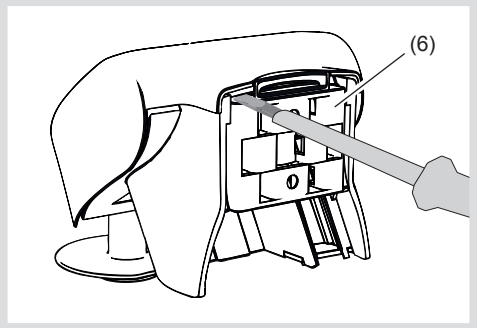

Figure 4: Loosening the wall/mast fixing
The weather station is supplied complete with a wall/mast fixing (6). This is locked into place on the rear of the device upon delivery (figure 4).
Carefully loosen the wall/mast fixing (6) from the detent mechanism using a screwdriver and slide it downwards to remove (figure 4).